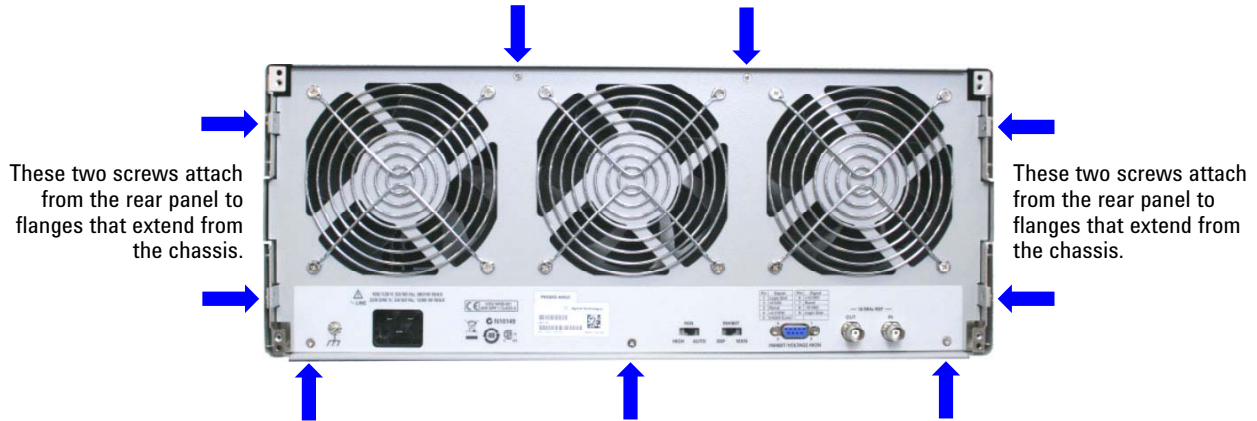

Figure 74 The nine screws which secure the rear panel to the chassis
- 3 Remove the 9 screws highlighted in Figure 74. Depending on your chassis, these 9 screws may either be Phillips #2 or Torx T8.
- 4 Next, slide the base of the rear panel out from the chassis as shown in Figure 74.
- 8 Mount the rear panel back in the chassis and insert the 9 screws shown in Figure 74. Tighten these screws securely.
- 6 Following the reverse of the procedure you used to remove the rear panel, re-attach the rear panel to the chassis, and attach the 9 screws shown in Figure 74. Tighten these screws securely.